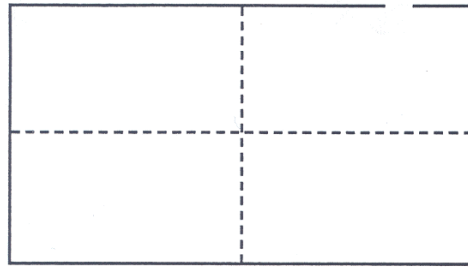

Fig. 1
1. Line off entire area to be installed (Fig. 1).